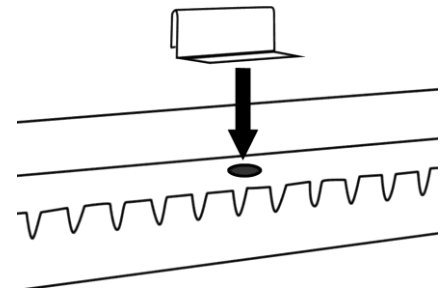

Fig 5.2
2. Drop the water diffuser (F) directly over the center of the dispenser hole (Fig 5.2). The diffuser (F) will clip on the back edge of the dispenser (E). Make certain the diffuser (F) is sitting directly over the hole (Fig 5.2).